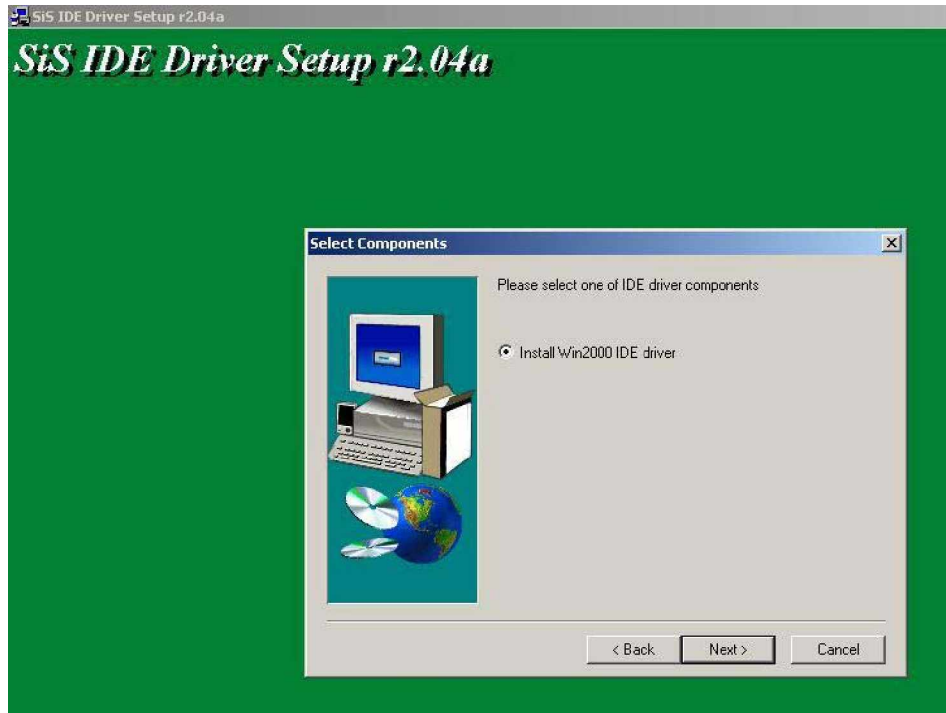

Figure 6-21: Chipset Driver Readme File Information
- Step 12:** Select an OS. (See **Figure 6-21**.)